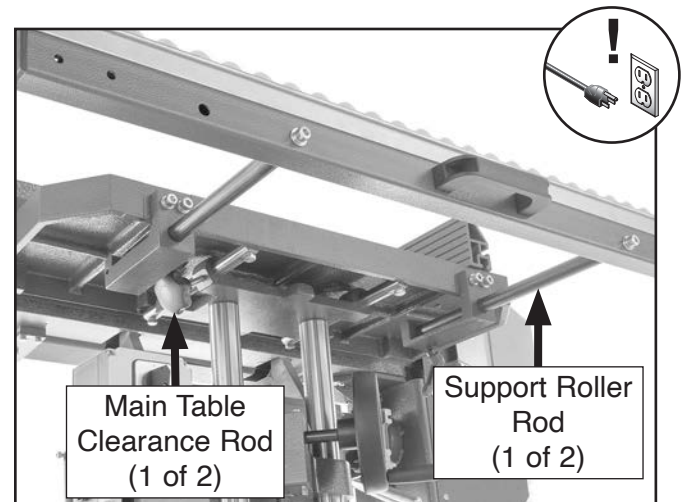

Figure 61. Main table clearance and support roller rods.
3. Clean main table clearance and support roller rods shown in **Figure 61** with rags and mineral spirits to remove grime and old lubrication.